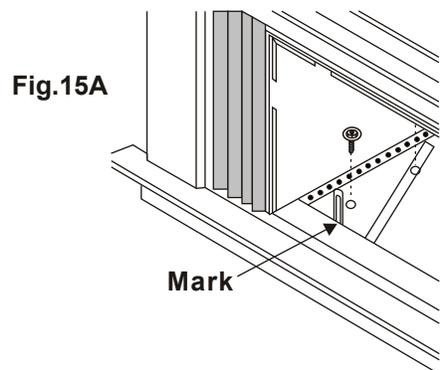

Fig.15A
1. Hold each support bracket flush against outside of sill and tight to bottom of cabinet as shown in Fig. 15A. Mark brackets at top level of sill, and remove.